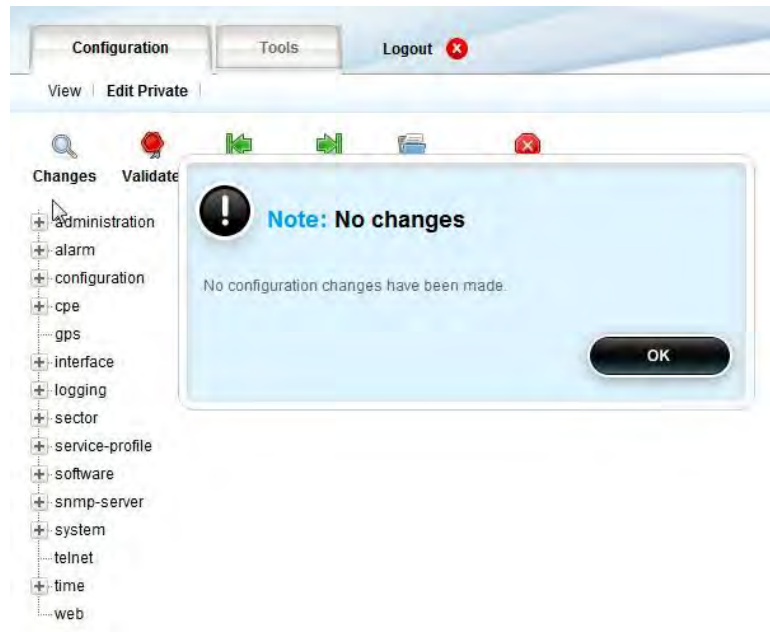
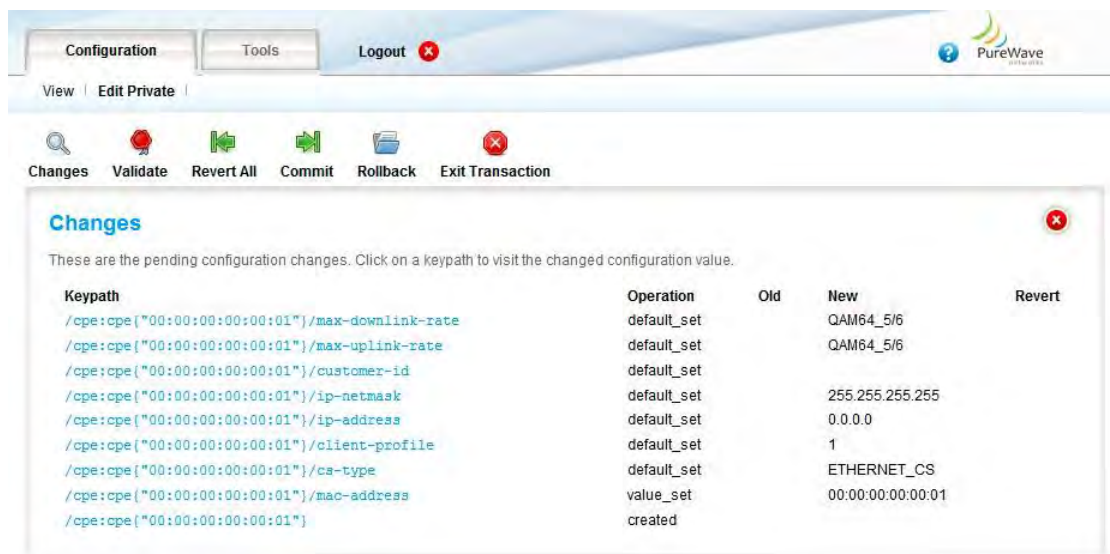

Figure 13 Configuration Changes Popup Window
Figure 14 Revert Option
- There is also an option within this window to **Revert** the change (Figure 14). If the User selects this revert option, then the intended changes will be reversed and the "No configuration changes" will appear (Figure 13).